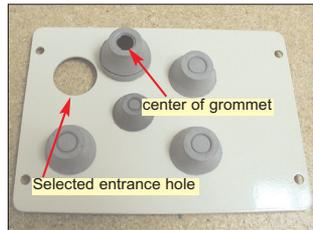

Fig. 21
- Select the entrance hole to be used and remove the rubber grommet. Using a utility knife or other cutting tool, remove the center piece of the grommet (Fig. 21).